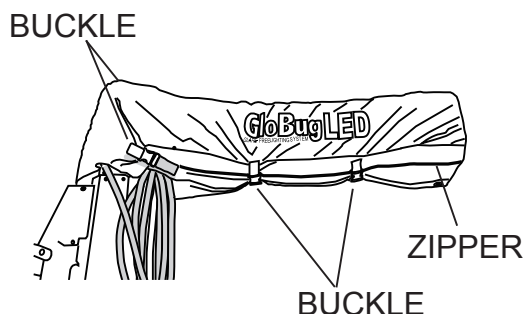

Figure 24. Zipping Balloon Cover
2. Cover the balloon and lampstand. Zip up the cover and fasten the 4 buckles (Figure 24).